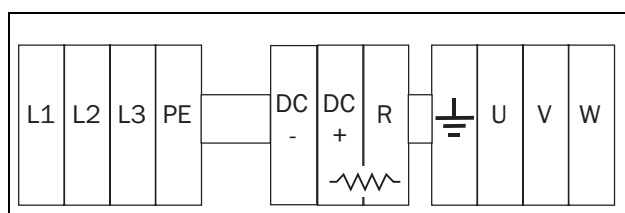

Fig. 31 Connection of mains and motor cables
1. Connect the mains cables as in Fig. 31. The VSD has a built-in RFI mains filter that complies with category C3 which suits the Second Environment standard.
2. Connect the motor cables as in Fig. 31. To comply with the EMC Directive you have to use screened cables and the motor cable screen has to be connected on both sides: to the housing of the motor and the housing of the VSD.